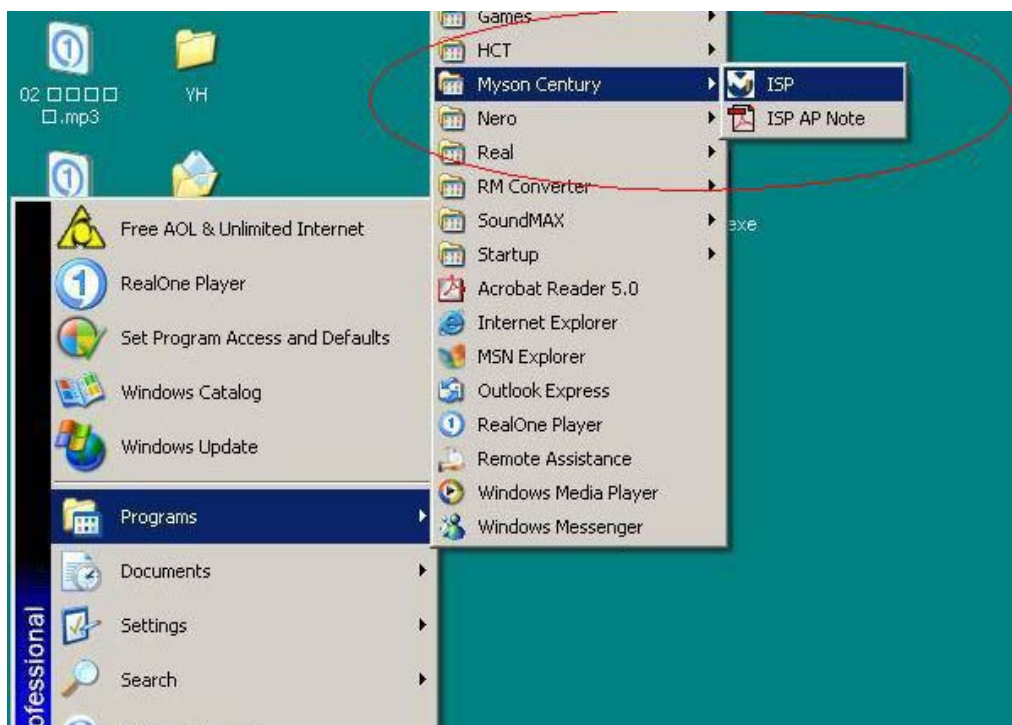

Fig. 2.1
1. After installation , we could find the shortcut in the setting path or the program bar (default setting) , see Fig 2.1